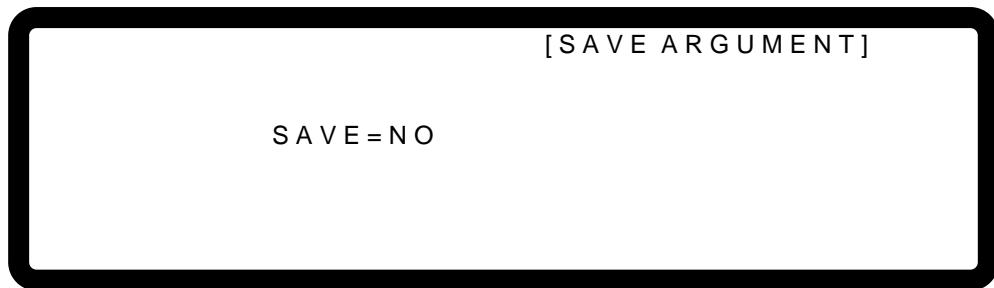

Figure 3-109
9. The voltage calibration is now done. To save the calibration data, press “” to display the confirmation page as shown in Figure 3-109. Press “” or turn the “Rotary” () to set SAVE=YES and press “” to save it. If there is no need to save it, press “” to return to the Calibration screen.